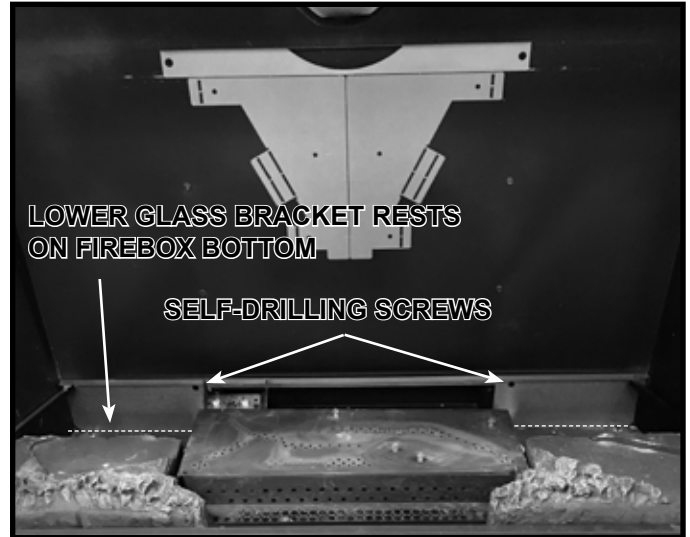
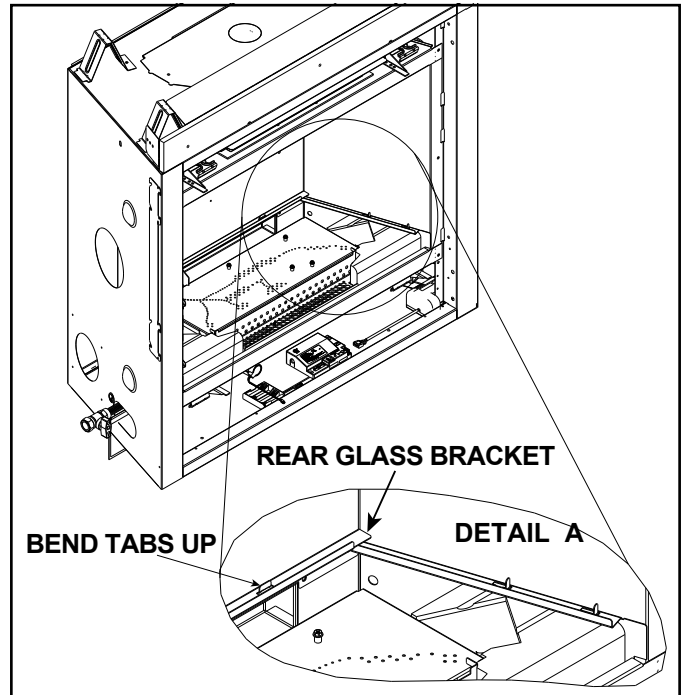

Figure 11.9 Rear Lower Glass Bracket Installed
Figure 11.10 Bend Tabs on Lower Side and Rear Glass Brackets
2. Remove the rear lower glass bracket from the back of the firebox by pulling forward on the top edge to break it free. See Figure 11.8. Bend the hand bend features "up" to about 45 degrees and install the rear lower glass bracket using the self drilling screws from the manual bag. The bracket must rest on the bottom of the firebox. See Figure 11.9 and Figure 11.10.
Note: The lower glass bracket spans the entire width of the back wall of the firebox and rests above the side lower glass brackets. See Figure 11.10, Detail A.